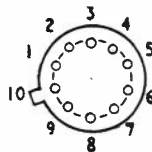

FIG. 45. LEAD ARRANGEMENT: TO 100 PACKAGE (BOTTOM VIEW).
- **TO 5 STYLES.** A projection at the bottom of the package, or a flat surface on the perimeter, indicates either the first lead, the last lead, or may be placed between those leads. Refer to the manufacturer's literature to determine which lead is indicated. Fig. 45 shows the lead arrangement for a TO 100 package. The projection indicates the last lead in this example.